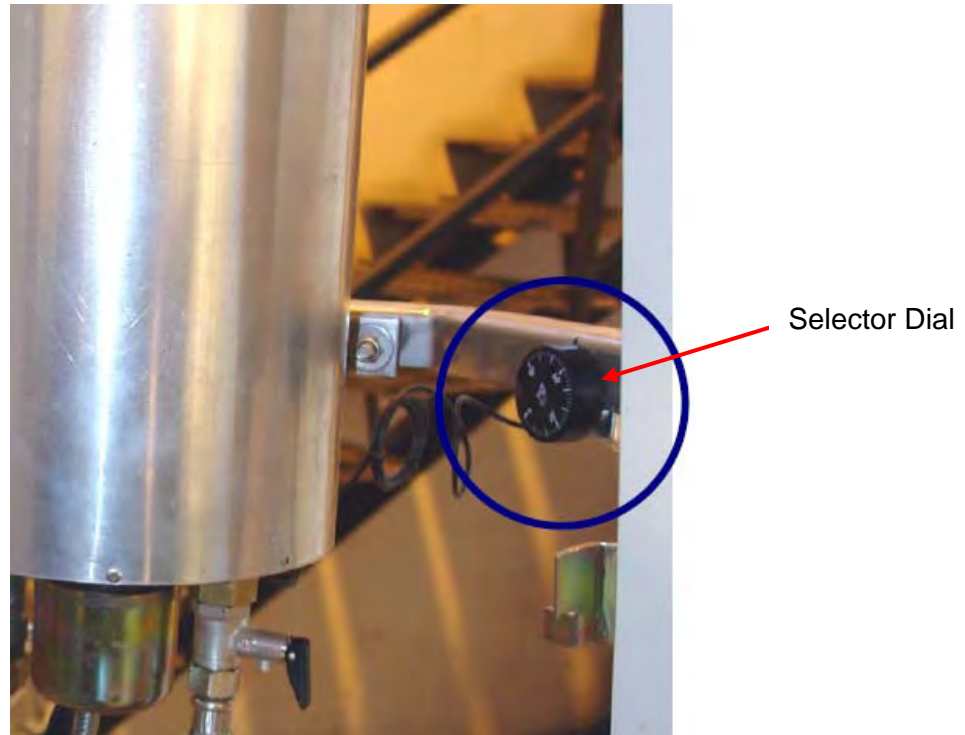

Figure 4: External Thermostat Selector
- 8.1 Check that the external thermostat selector is set at 60°C. Adjust to 60°C if required (see Figure 4).